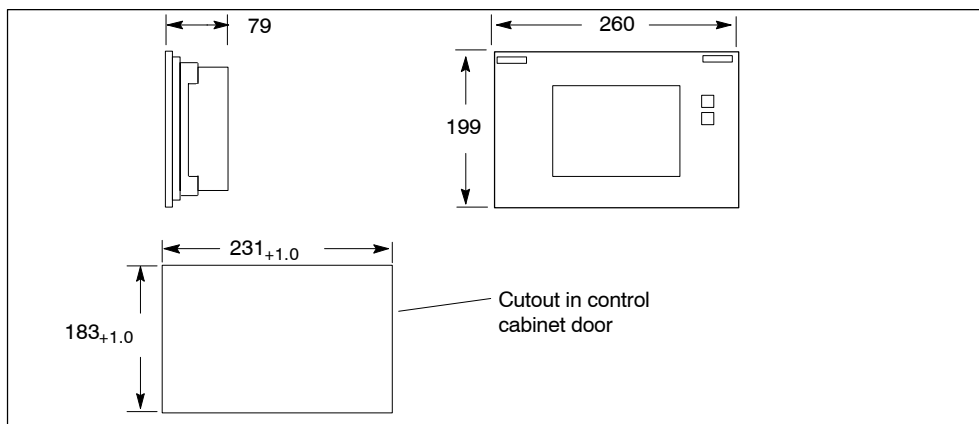
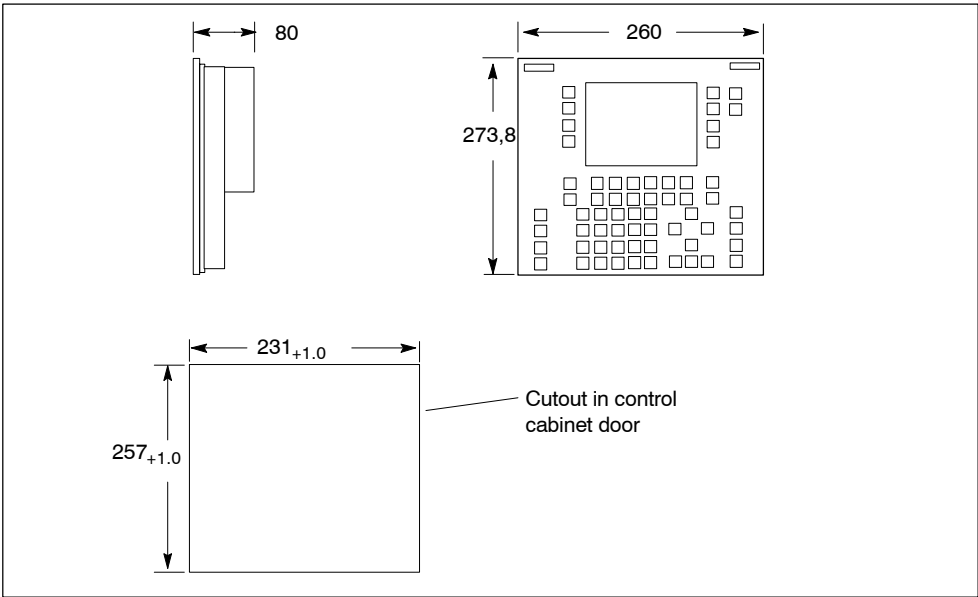

Figure 3-3 Dimension Drawings for the C7-635 Touch (Measurements in mm)
Figure 3-4 Dimension Drawings for the C7-635 Key (Measurements in mm)
1.	C7-635 Touch: Make a cutout in the control cabinet door (dimensions 231+1.0 x 183+1.0 mm). See Figure 3-3. C7-635 Key: Make a cutout in the control cabinet door (dimensions 231+1.0 x 257+1.0 mm). See Figure 3-4.